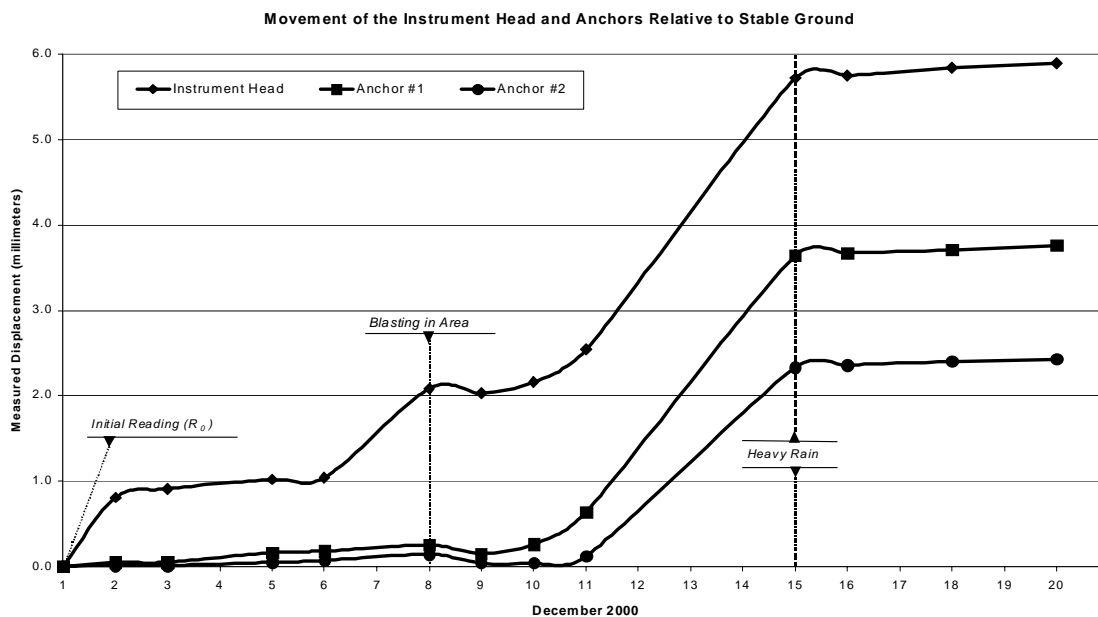
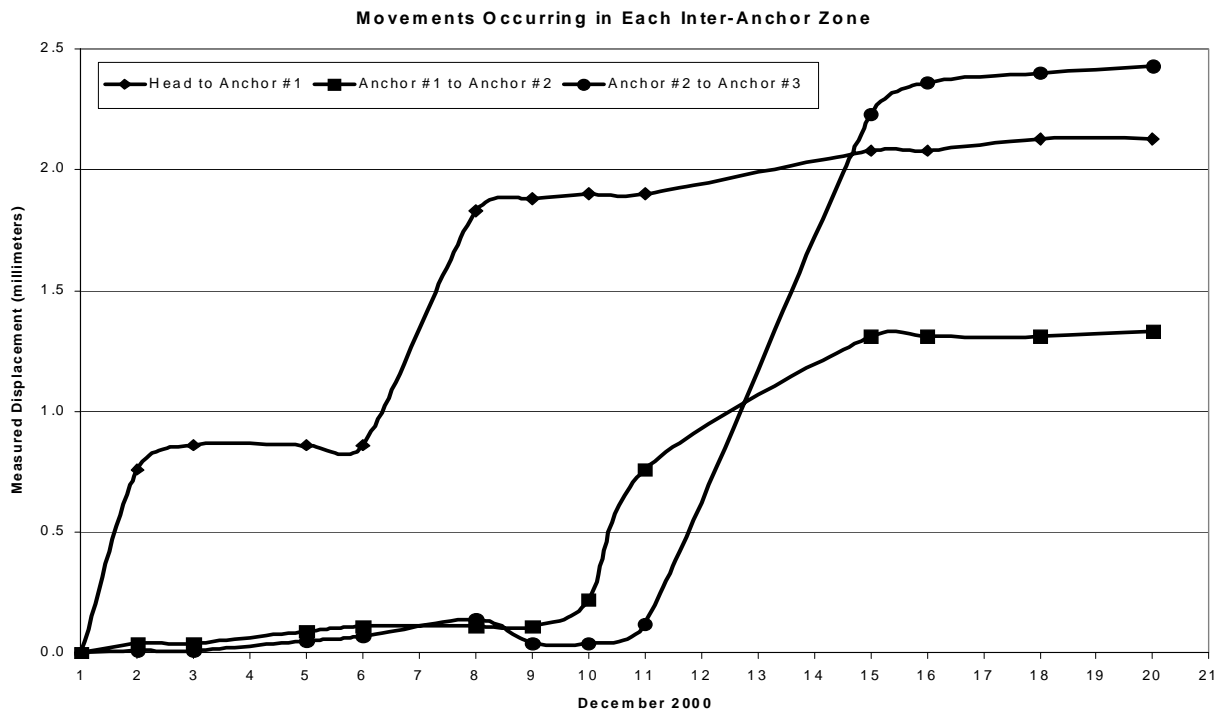

Figure 4. Movement of the Head and Anchors Relative to Anchor 3 in Stable Ground
Figure 5 Movements Occurring in Each Inter-Anchor Zone
6.1.3 The data shown in Table 3 could be plotted and shown in a graph like the one shown in Figure 4.
Inspection of the plot shows that initial movement occurred in the zone closest to the surface during the first 3 days and again on day 8 following blasting in the area. On day 15, following a heavy rainfall, deep-seated movements occurred in the zone between anchors 2 and 3 and also in the shallower zones. Movements occurring in any inter-anchor zone can be inferred from the spacing between the individual plots of Figure 4, or they can be plotted separately as shown in figure 5